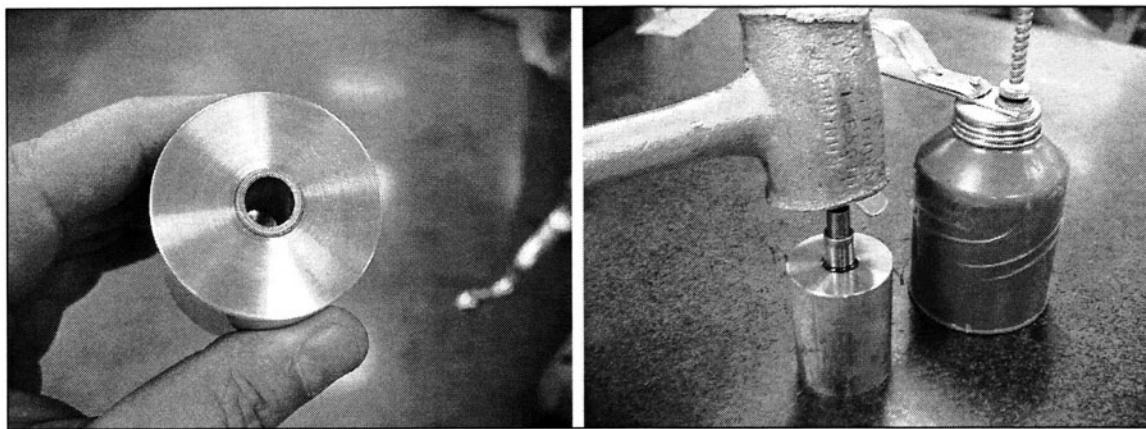

FIGURE 6-5 A bushing is removed from a blind hole by using hydraulics.
5. *Use hydraulics to remove bushings pressed into blind holes. (See Fig. 6-5)*